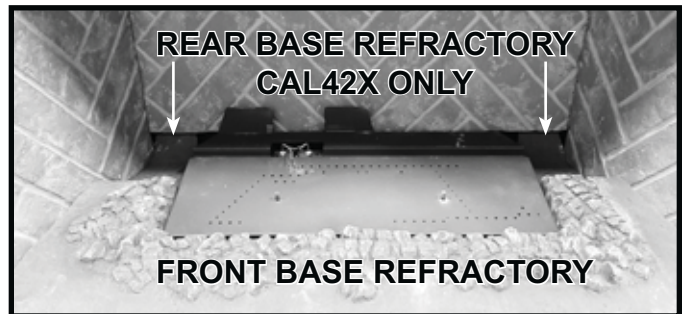
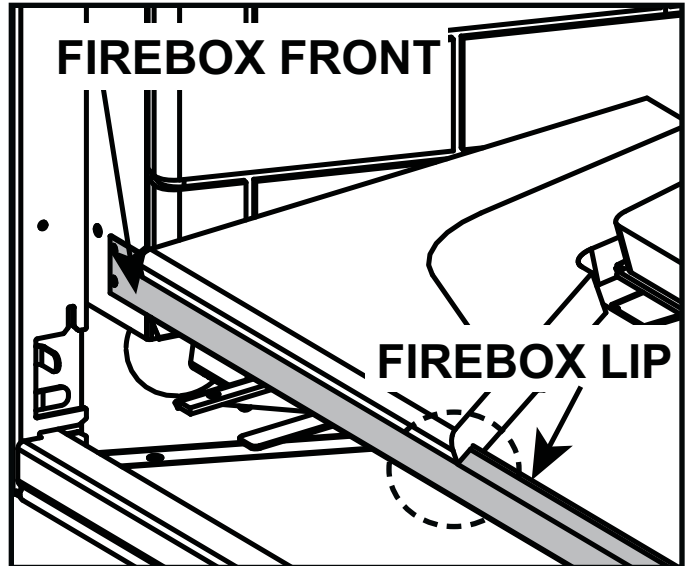

Figure 11.8 CAL42X Models Only: Base Refractory Pieces Installed
Figure 11.9 Front Base Refractory Installed
8. Prior to placing base refractory, ensure the basepan is centered left to right and is positioned forward enough that it contacts the firebox front as noted in Figure 11.9. Install the front base refractory by placing it as shown in Figure 11.8. Ensure that the profile of the refractory fits over the firebox lip as shown in Figure 11.9.